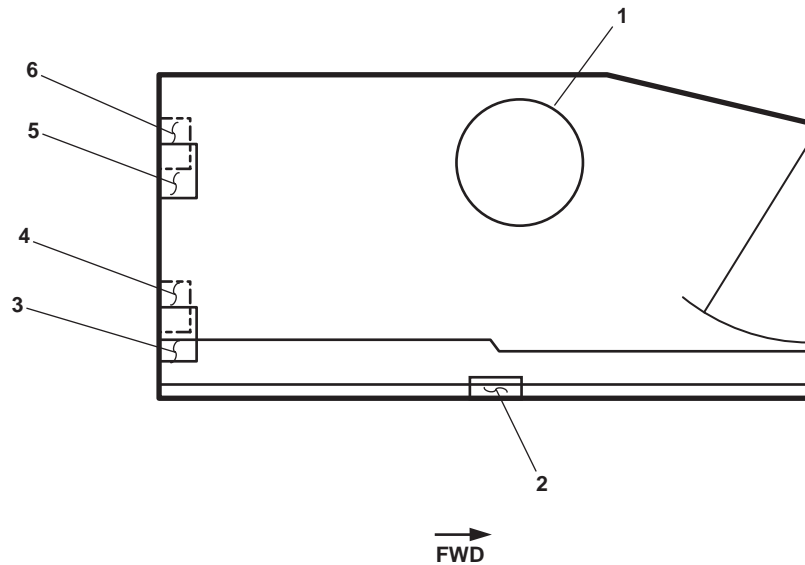

Figure 4. Forward Fan Room
1. AMS 1 supply fan (figure 4, item 1). This fan supplies fresh air to AMS 1.
2. Sanitary spaces exhaust fan (figure 4, item 2). This fan removes foul air from the sanitary spaces.
3. Starboard searchlight power supply (figure 4, item 3) (above). This power supply provides power to the starboard searchlight.
4. Port searchlight power supply (figure 4, item 4) (below). This power supply provides power to the port searchlight.
5. Sanitary spaces exhaust fan (E01-44-2) motor controller (figure 4, item 5) (above). This controller turns the sanitary space exhaust fan ON and OFF.
6. Ship's whistle power supply (figure 4, item 6) (below). This power supply provides power to the ship's whistle (automatic fog horn).